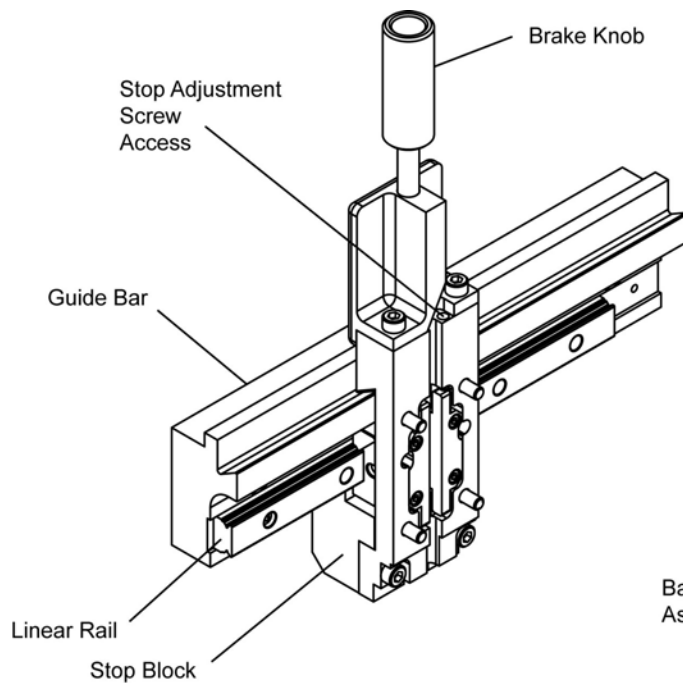

Fig. 1
6. Adjust knifeholder to guidebar (Fig.1).